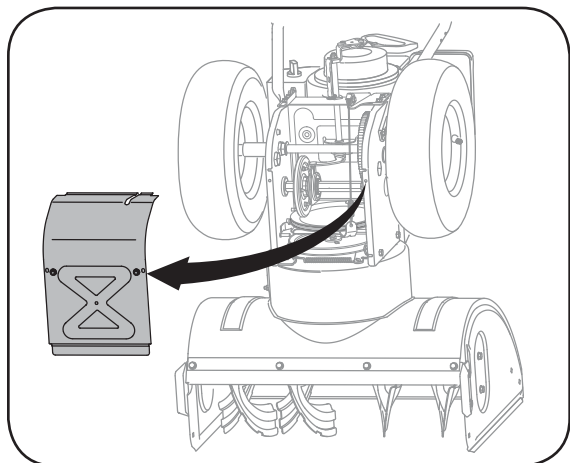

Figure 6-5
1. With the snow thrower tipped forward, remove the frame cover underneath the snow thrower by removing the self-tapping screws. See Figure 6-5 on page 15.
2. Carefully pivot the snow thrower up and forward so that it rests on the auger housing. Remove the frame cover from the underside of the snow thrower by removing four self-tapping screws which secure it. See Figure 6-5.
2. Carefully pivot the snow thrower up and forward so that it rests on the auger housing. See Figure 6-5.
1. Carefully pivot the snow thrower up and forward so that it rests on the auger housing. See Figure 6-5.
2. Remove the frame cover from the underside of the snow thrower by removing four self-tapping screws which secure it. See Figure 6-5.